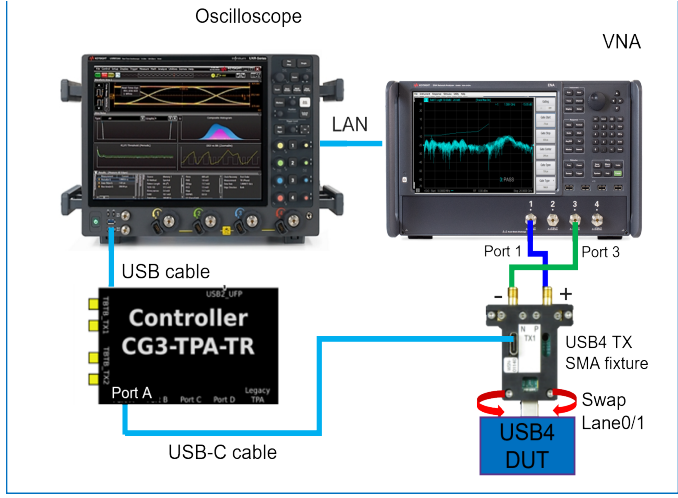

Figure 71 Tx Return loss test setup with Tx SMA test fixture
- 1 For the physical connections between the DUT & the Oscilloscope, see the connection diagrams in Figure 71 and Figure 72.